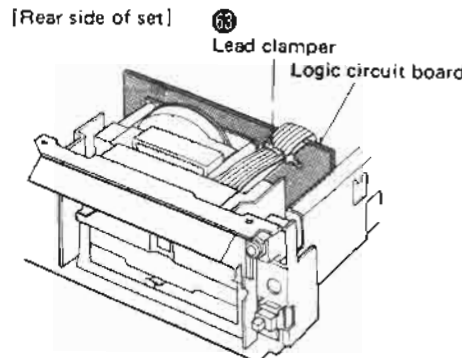

Fig. 13
6. Cut off the lead clamber (Fig. 13 : 63) and remove the cassette deck.